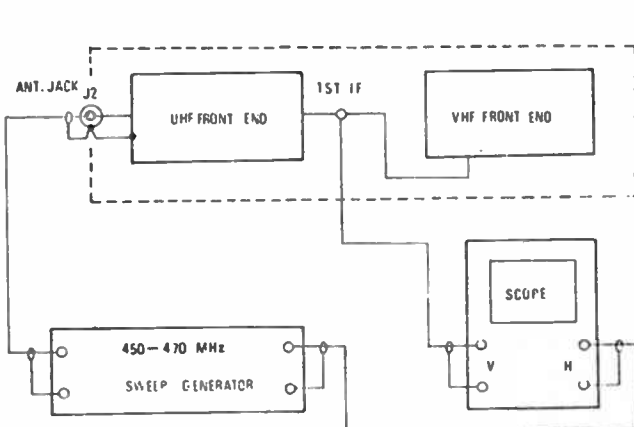

FIGURE 7. UHF RF ALIGNMENT
Step 1: Connect the instruments as shown in Figure 7.